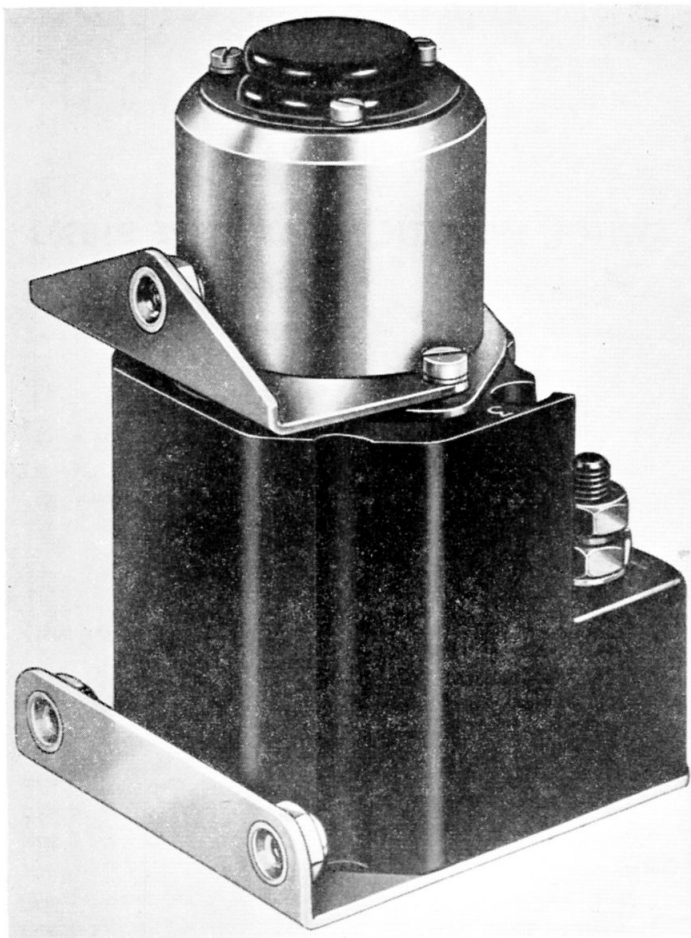

Fig. 1. General view of type DI0505 switch
2. The Type D10505 magnetic switch (*fig. 1*) comprises a black body moulding, a main and auxiliary contact mechanism, a solenoid which is mounted at one end of the body moulding, two main terminals, two coil terminals and four auxiliary terminals. The auxiliary terminal block (not shown in *fig. 1*) is mounted on the opposite end of the body moulding to the solenoid.